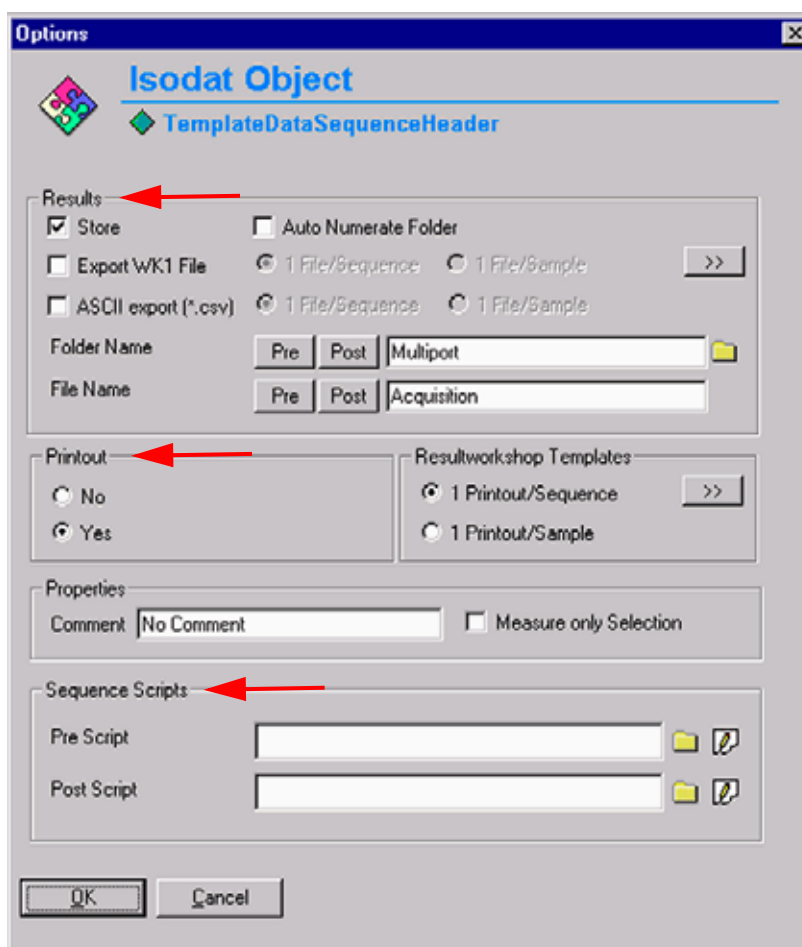

Figure 6-28. Editing the Sequence Header
- Sequence Scripts (See Figure 6-28.)
- Sequence Scripts (See Figure 6-28 on page 6-24.)